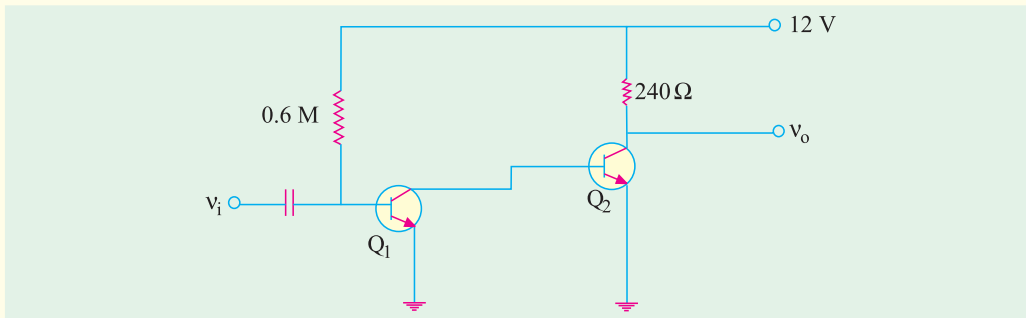

Fig. 61.46
4. For the direct-coupled amplifier shown in Fig. 61.46, calculate the approximate value of